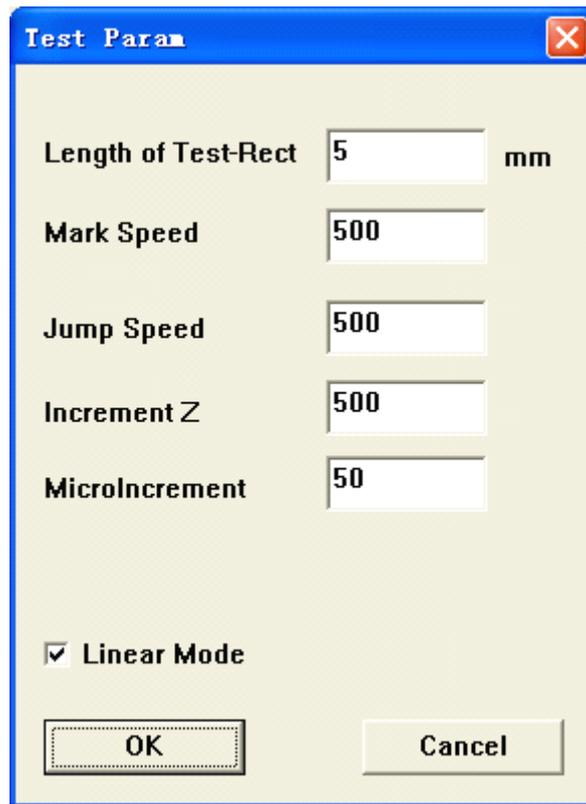

Figure 16 Advanced parameter
**Advanced:** Click this button, the “Advanced” dialog box is shown, see figure 16.